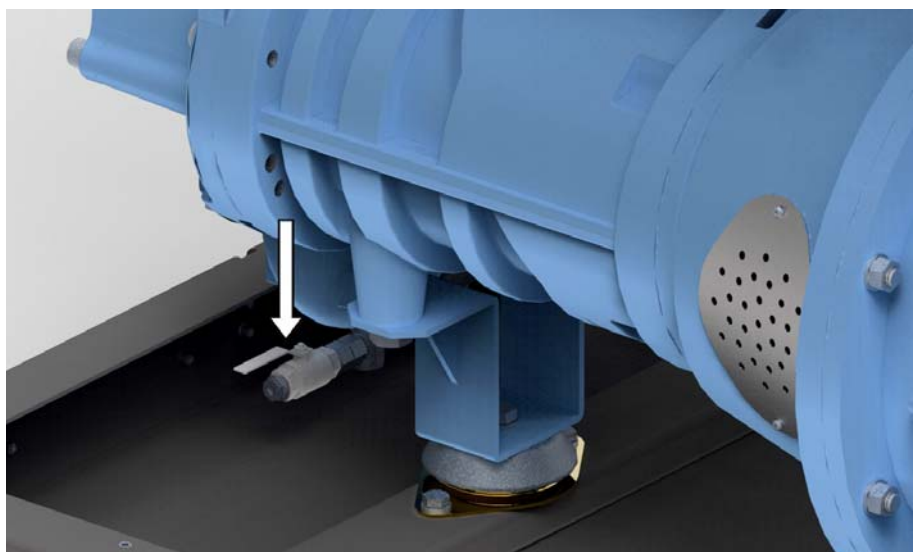

Fig. 6.14: Oil drain on the compressor
20. Remove the service side claddings so that the oil drain under the airend (see arrow in figure 6.14) is accessible.